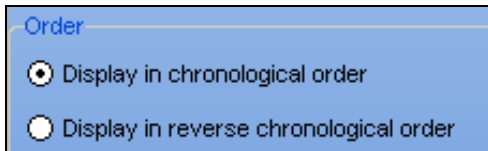

Figure 21.0.7
- Next decide on which order you want the Station History to appear. Click on the appropriate button in the “Order” section (Figure 21.0.7).